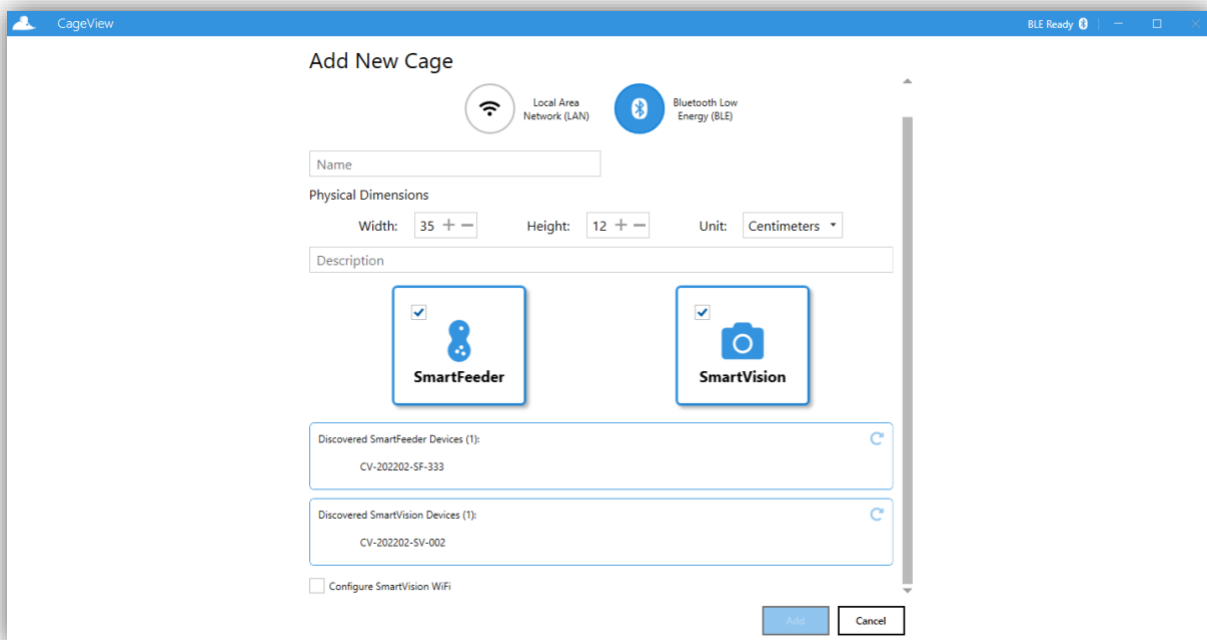
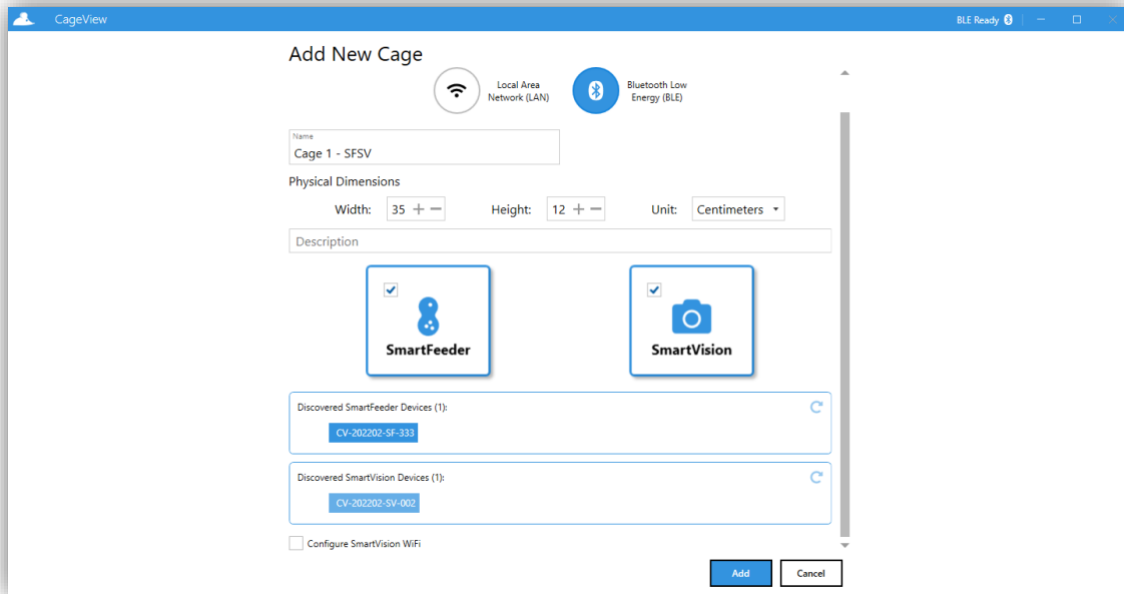

Figure 11. Add a BLE Cage - scan finished
Figure 12. Add a BLE Cage - filled form
5.1.8. The discovered nearby BLE CageView will be listed in the form. The user will need to choose one of the discovered devices from the list in addition to naming it (**Figure 11**). A valid filled form is shown in **Figure 12**.